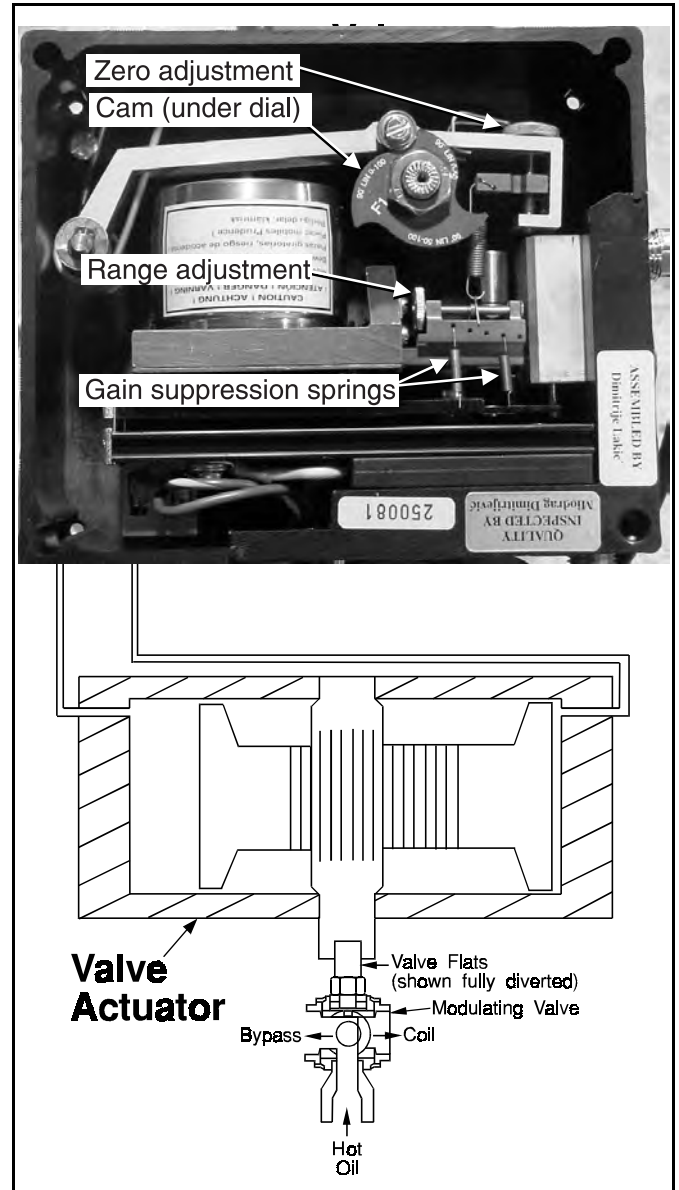
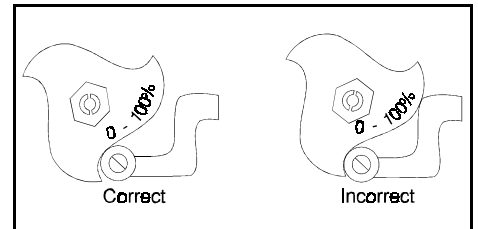

FIGURE 3 (MSSM0102BE)
FIGURE 4 (MSSM0102BE)
4. Verify that the lower arm bearing rests on the portion of the cam labeled 0-100%. See FIGURE 4.
5. Check that two gain suppression springs are mounted in positions 1 and 4 (as shown in FIGURE 3).
1. Check that the lower arm ball bearing rests near the deepest part of the cam curve as shown on FIGURE 4. If not, move the zero adjustment thumbwheel (FIGURE 3) until the ball bearing is in this position. If this can not be achieved, loosen the cam retaining nut, move the cam, then use the zero adjustment thumbwheel for adjustment (the cam may rotate slightly with the nut as it is tightened, be sure to allow for this).
2. After setting, check that the modulating valve flats are aligned at a 90 degree angle to the modulating valve (FIGURE 3 and 6). This ensures no hot oil reaches the dryer heating coil. All of the hot oil is returned to the heater.